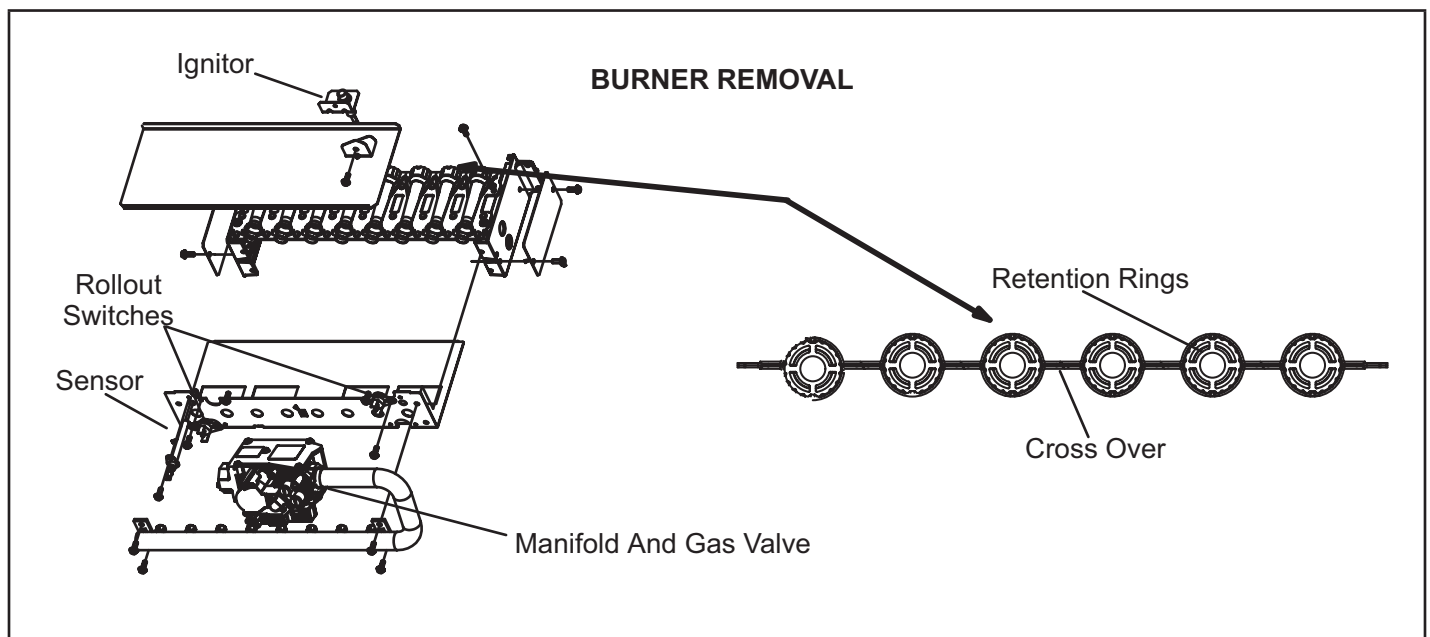

Figure 33
- 4 - To clean burners, run a vacuum cleaner with a soft brush attachment over the face of burners. Visually inspect inside the burners and crossovers for any blockage caused by foreign matter. Remove any blockage. Figure 33 shows burner detail.